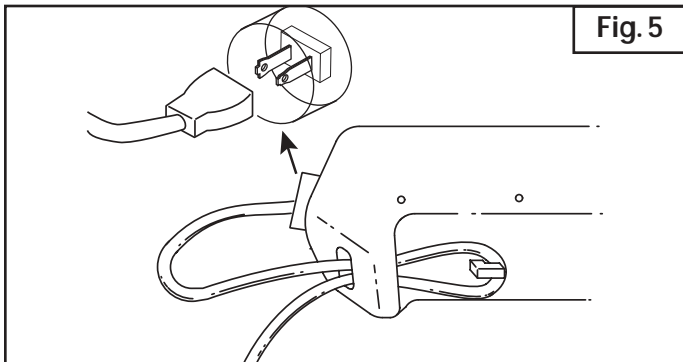

Fig. 5
2. Push the loop through the opening and move it onto the hook on the motor housing (Fig. 5).